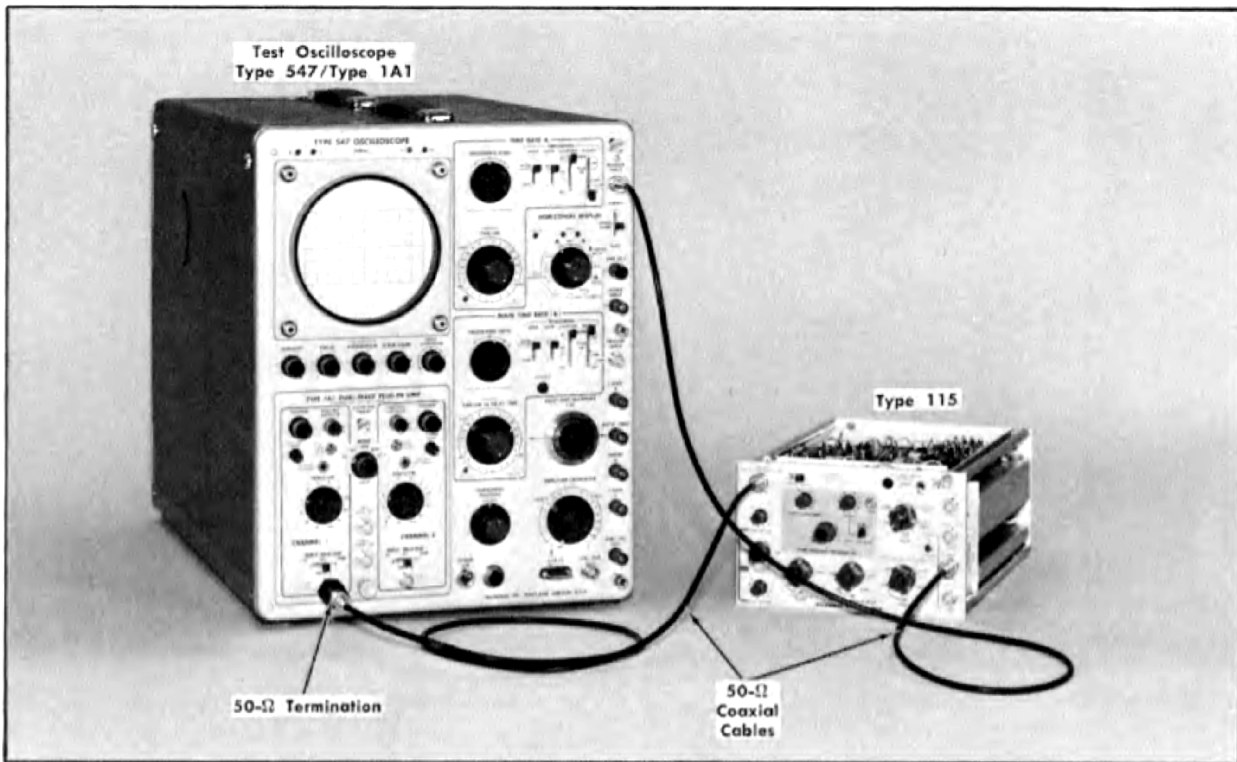

Fig. 5-7. Initial test equipment setup for steps 9 through 14.
- a. Test equipment setup is shown in Fig. 5-7.
a. (If steps 9, 10 and 12 have just been completed, go to part n of this step). Test equipment is shown in Fig. 5-7.